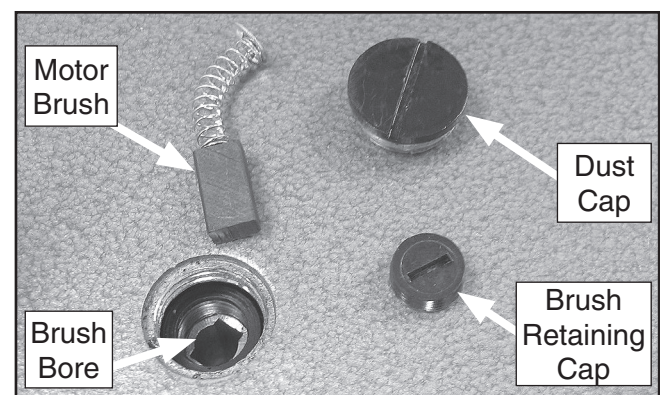

Figure 25. Brush components.
3. Unscrew the brush retaining cap, use needle nose pliers to replace the brush, and reinstall the caps (**Figure 25**).